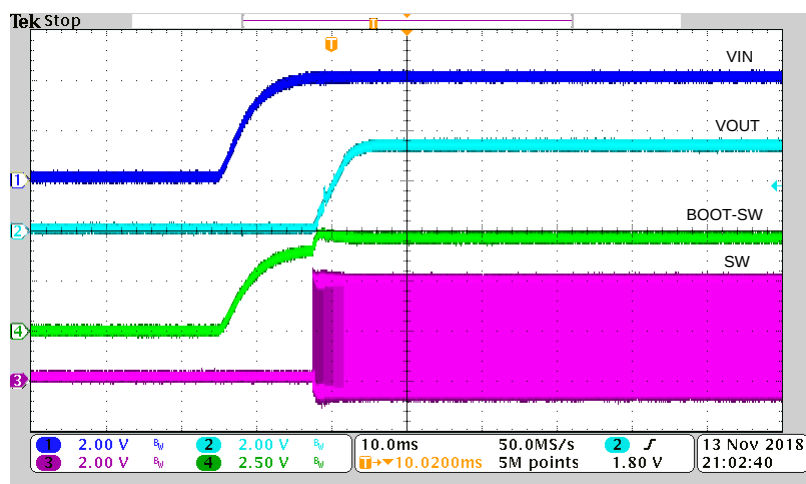
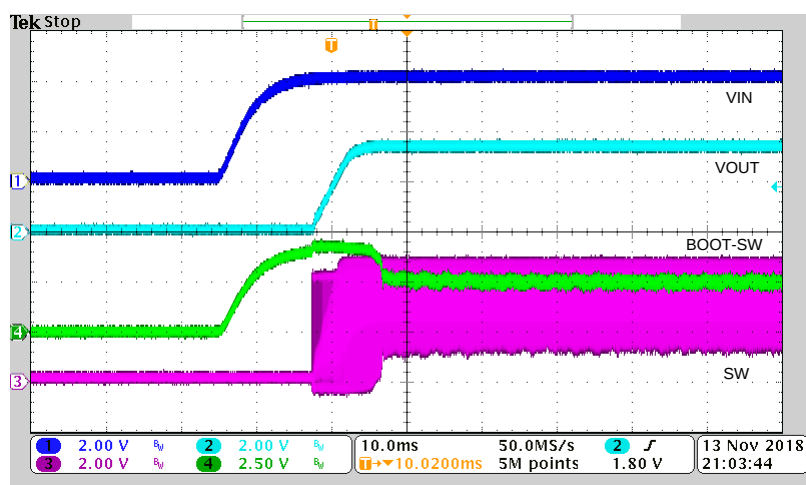

Figure 16. Startup Waveform with $V_{IN} = 4\text{ V}$, $I_{OUT} = 2\text{ A}$
Figure 17. Startup Waveform with $V_{IN} = 4\text{ V}$, $I_{OUT} = 3\text{ mA}$
Figure 16 and Figure 17 show the startup waveforms of solution (1) under different conditions.